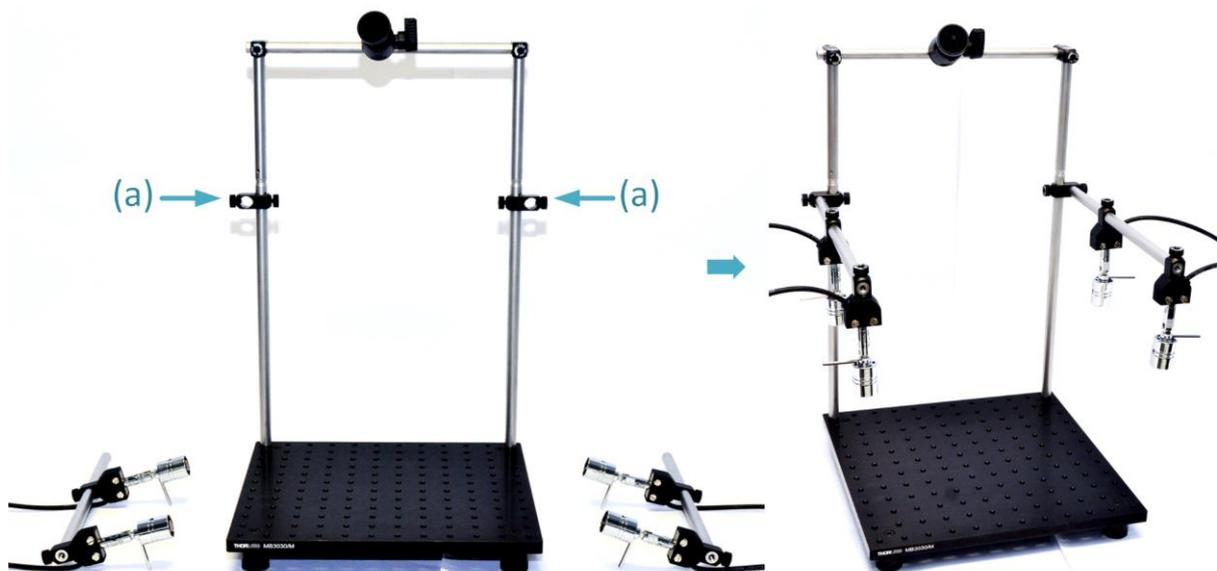

Figure 25 Mounting of lamp holders on to the setup (Step 4.2)
Step 4.2 Mount the posts on to the setup (Figure 25)